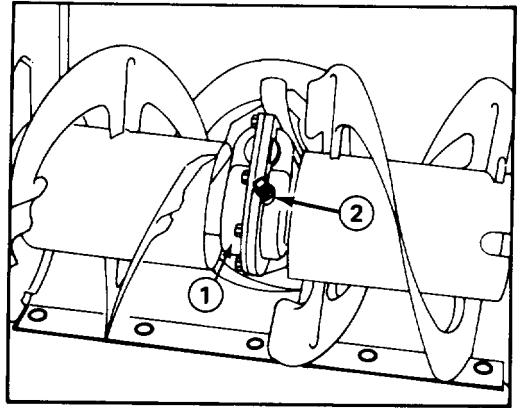

Figure 19
1. Remove pipe plug (Fig. 19).